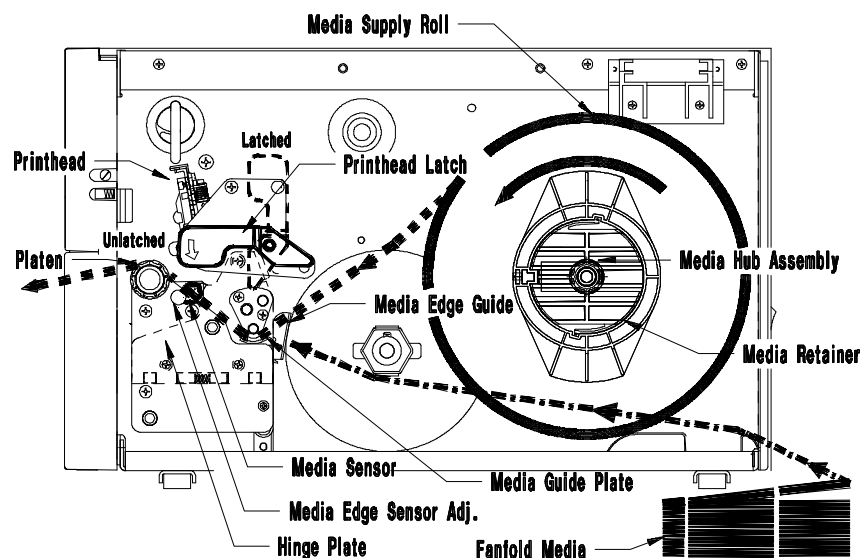

Figure 2-5b Media Installation
NOTE: If using fanfold media, skip steps 5 and 6. Install fanfold media as shown in figure 2-5b.
7. Route the media over the Guide Plate, between the Media Sensor, and over the Platen Roller, (located beneath the Printhead), as shown in Figure 2-5b.